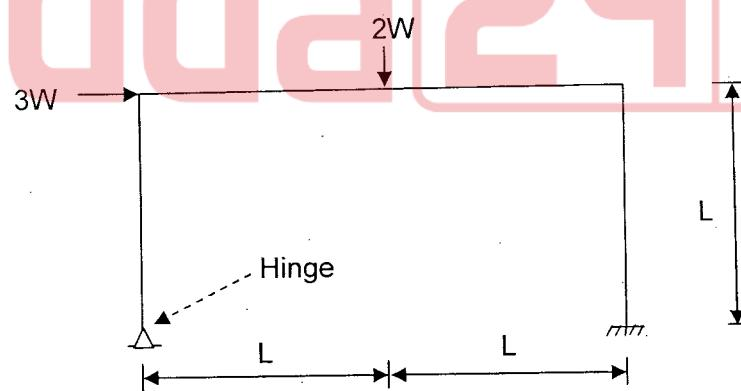

Fig. 4
5. Find the collapse load for the portal frame shown in Fig. 4 (40)